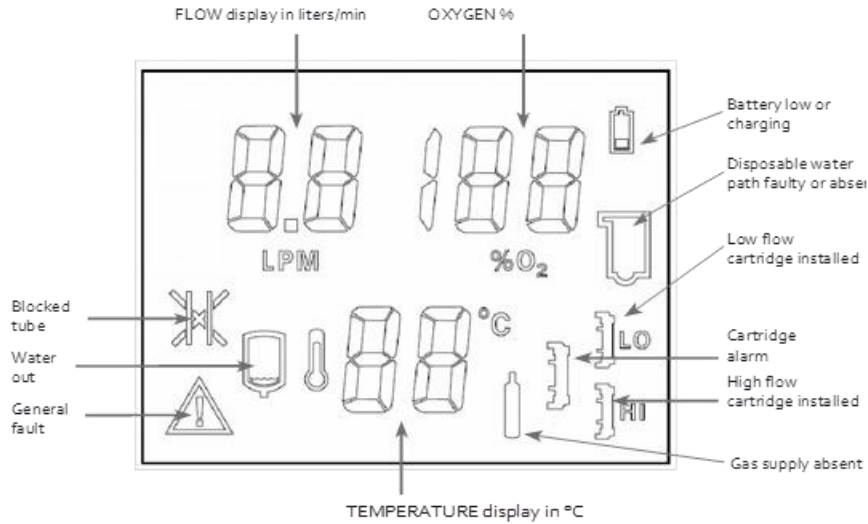

FIGURE 5.1
See Figure 5.1 for Icon Legend
4.9 Verify: <ul style="list-style-type: none"> - The alarm clears - Flow and O₂% are restored - The gas tank icon goes dark See Figure 5.1 for icon legend
4.13 Verify: <ul style="list-style-type: none"> - Flow stops - O₂% displays "--" - L/min displays 0.0 L/min - Medium priority alarm sounds - The gas tank icon flashes. See image in 4.7. and Figure 5.1 for icon legend
4.15 Verify: <ul style="list-style-type: none"> - The alarm clears - Flow and O₂% are restored - The gas tank icon goes dark See Figure 5.1 for icon legend
<p>5.7 Verify:</p> <ul style="list-style-type: none"> - Flow stops - The Medium priority alarm sounds - The occluded tube icon flashes. <p>See Figure 5.1 for icon legend The precision Flow will attempt to restore flow every 3 seconds after an occlusion is detected. Remove the occlusion to avoid consecutive alarms.</p>